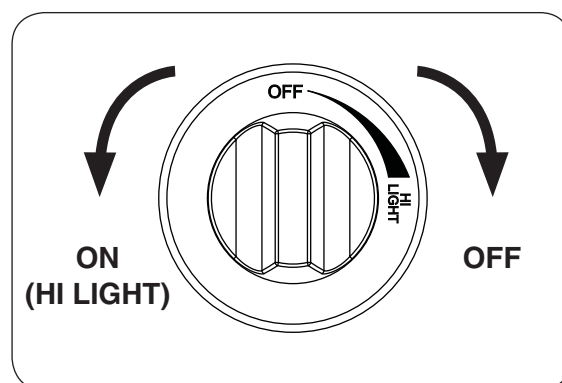

Fig. 37-2
4. **Once the match is burning and in position**, depress the gas control knob and turn it counter-clockwise to the **HI LIGHT** position (see Fig. 37-2). Your burner should light.
To extinguish your gas burner, depress the gas control knob and turn it clockwise to the **OFF** position (see Fig. 37-2). Be sure the control knob is turned fully off to avoid any gas leakage.